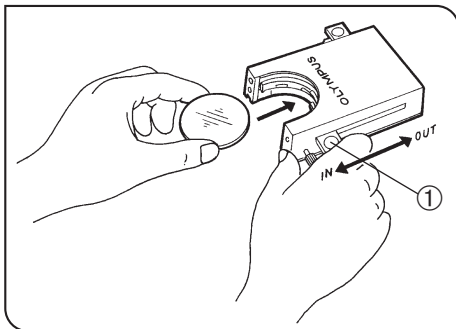

Fig. 14
Using the Filter Cassette (Figs. 14 to 17)
2. Slide lever ① to the IN position. Make sure that it clicks securely into place. (Fig. 14)
3. Holding the lever in the position shown in Fig. 14, put the filter into the cassette by inserting it in the direction indicated by the arrow.